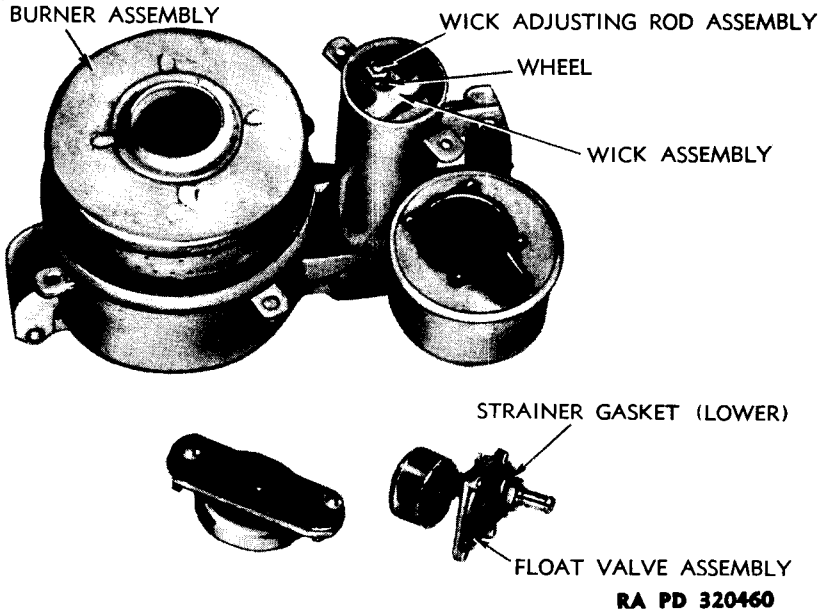
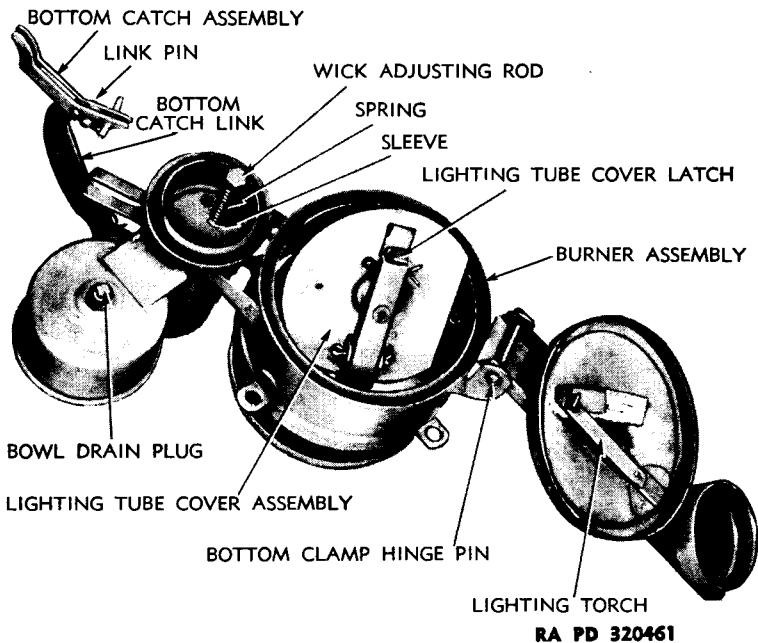

Figure 46 — Wick Assembly in Burner
Figure 47 — Burner Assembly—Bottom View
d. **Remove Wick Assembly and Operating Bolt** (fig. 46). Open bottom covers of burner unit. Pull wick adjustment up against spring pressure until wick assembly can be removed from adjusting bolt sliding sleeve. Hold head of bolt, loosen lock nut over sliding sleeve from which wick was unhooked and remove lock nut, sleeve, and sleeve nut. Unscrew adjusting bolt from remaining adjusting nut, and remove nut. Remove adjusting bolt, spring, and guide from bottom of burner assembly.
e. **Remove Burner Cover Assemblies** (fig. 47). Remove cotter pin and pin holding bottom clamp and cover assembly to burner. Remove two cotter pins and pins holding bottom catch link to burner and bottom catch assembly to link. Remove two cotter pins holding lighting tube cover assembly to burner and catch to cover assembly. *NOTE: Remove above parts as they are released.*
a. **Install Burner Cover Assemblies** (fig. 47). Install lighting tube cover over lighting tube and install cotter pin. Install lighting tube latch with straight lug down and with tapered projections under spring bar inside cover clamp and install cotter pin. Install lighting torch into pocket of burner lower cover. Install assembly to burner assembly with hinge pin and cotter pin.
b. Install Wick Assembly and Operating Bolt. Install spring and sleeve onto wick adjusting bolt, and insert assembly up through bottom of wick housing (fig. 47). Install special wick adjusting nut onto upper end of bolt, and turn bolt into nut until tangs on nut engage slide on side of wick housing. Install sleeve wheel onto hub of special nut. Screw nut onto end of wick adjusting bolt with wheel up. Install lock nut. Screw lock nut down until first thread of adjusting bolt just shows through lock nut. Turn sleeve wheel nut against lock nut and tighten. Lift the wick adjusting bolt to its highest position, place the wick so that it straddles the partition in the wick housing, and enter the U-shaped fork in the groove of the brass wheel on upper end of adjusting bolt (fig. 46). Install wick housing cover assembly with two screws and lock washers.